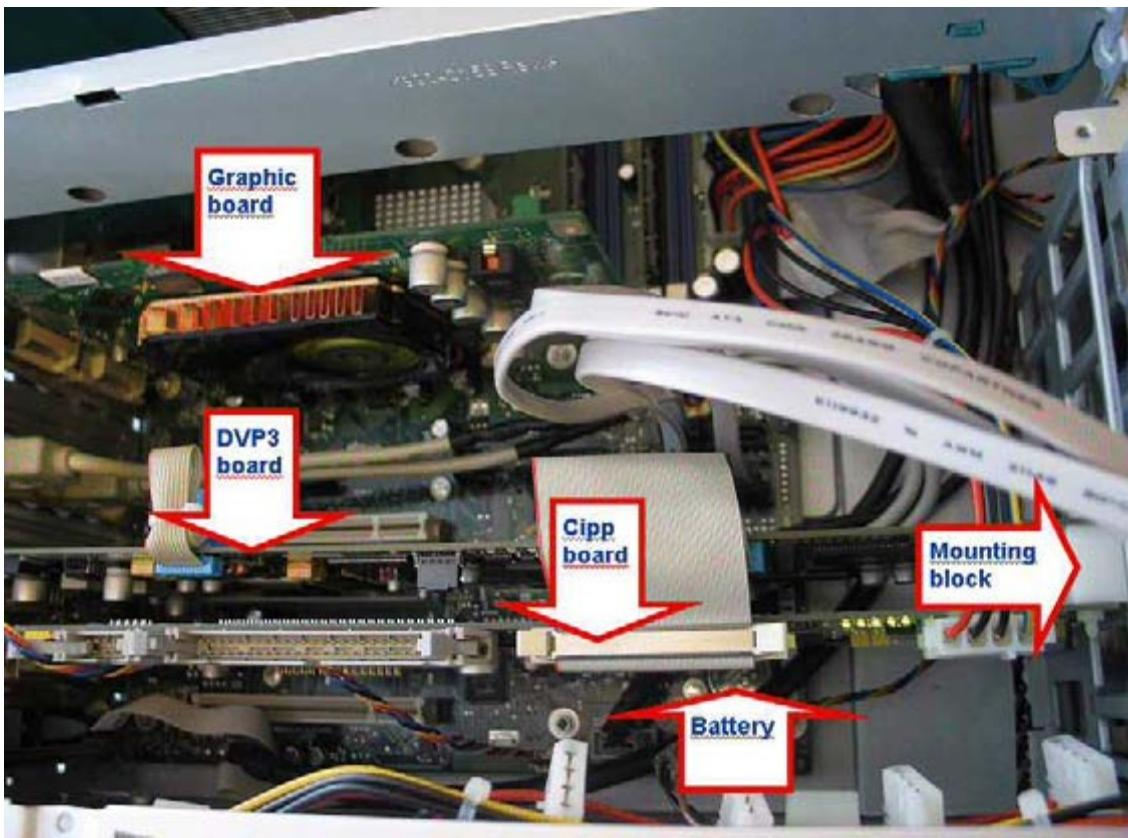

Fig. 61: Components M450\_
6. Remove the mounting block ([mounting block/\[Fig. 61 / p. 106\]\(#\)](#))